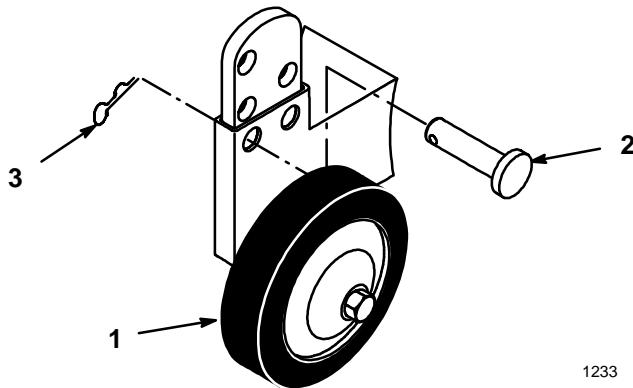

Figure 21
2. Remove hairpin cotter and pin to change hole location (Fig. 21).
3. Select a hole position so the anti-scalp wheel is $3/8"$ (9.5 mm) off the ground for the height-of-cut to be used (Fig. 21).